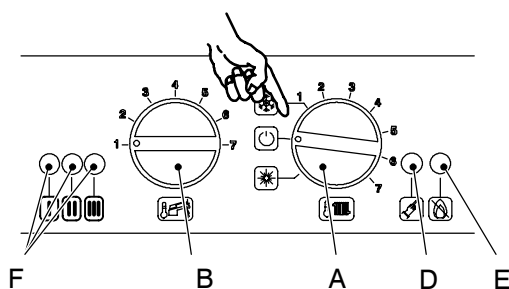

Fig. 6
- 4 Turn the boiler OFF positioning the function selector A as indicated in Fig. 6.